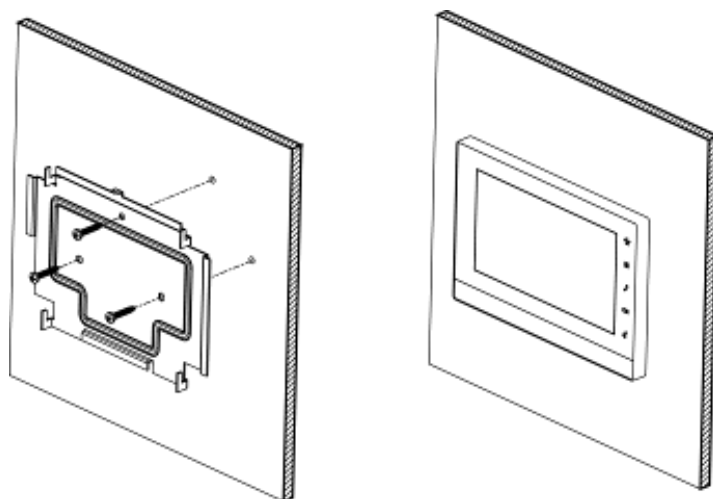

Figure 5-1
- Fix the device on the installation bracket and then use the clip to secure. See Figure 5-1.